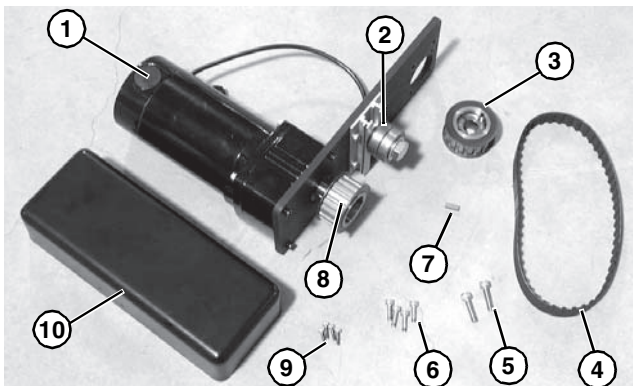

Figure 3
1. Typical components (**Figure 3**).